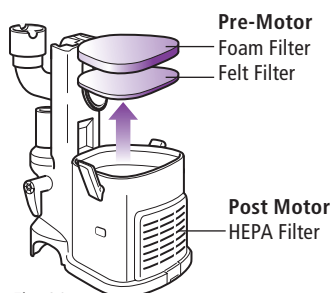

Fig. 20
- Pull the 2 filters out from the top of the motor base. (Fig. 20)